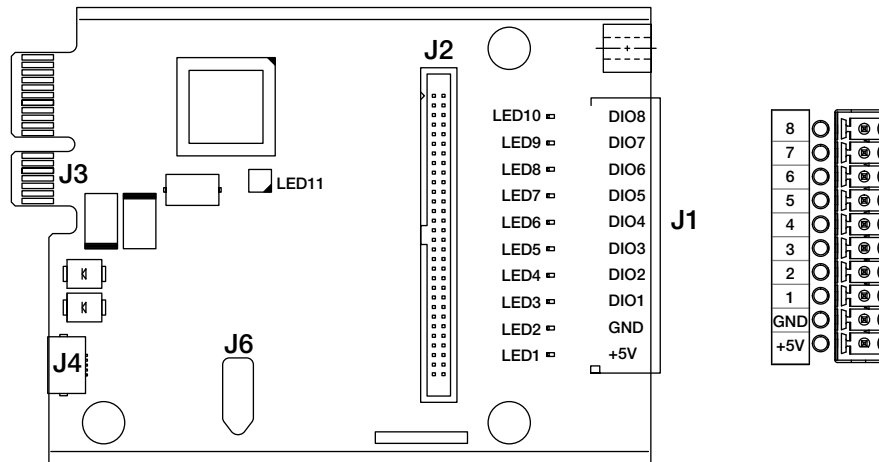

Figure 2. Digital I/O Card
7. Make connections to the option card. See Figure 2 and Table 3.